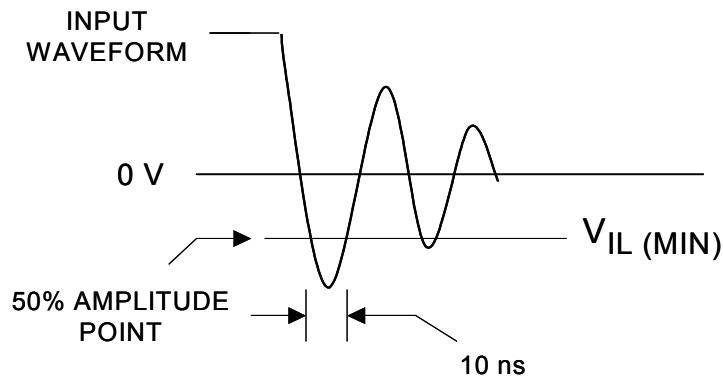

Figure 7: Input Signal Waveform
- 1.0 Volts for a duration of 10 ns measured at the 50% amplitude points for Input-only lines (see Figure 7 on page 29).
1. -1.0 Volts for a duration of 10 ns measured at the 50% amplitude points for Input-only lines (see Figure 7 on page 29).